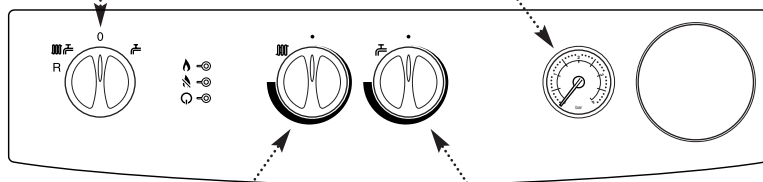

Fig. 41
10. If at any time during commissioning it is required to terminate a particular cycle, turn the selector to the OFF position and then back to either (OFF) or (ON) (Fig. 41).